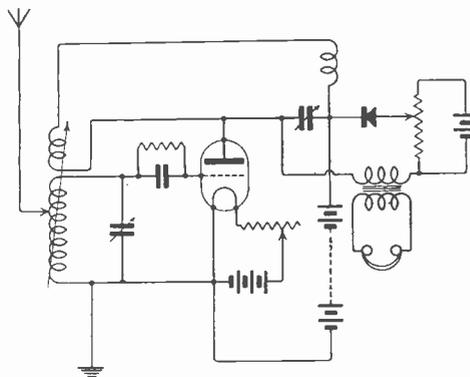

Fig. 4.
(1) Circuit may be as in diagram Fig. 4, which will also show you what additional apparatus is necessary.